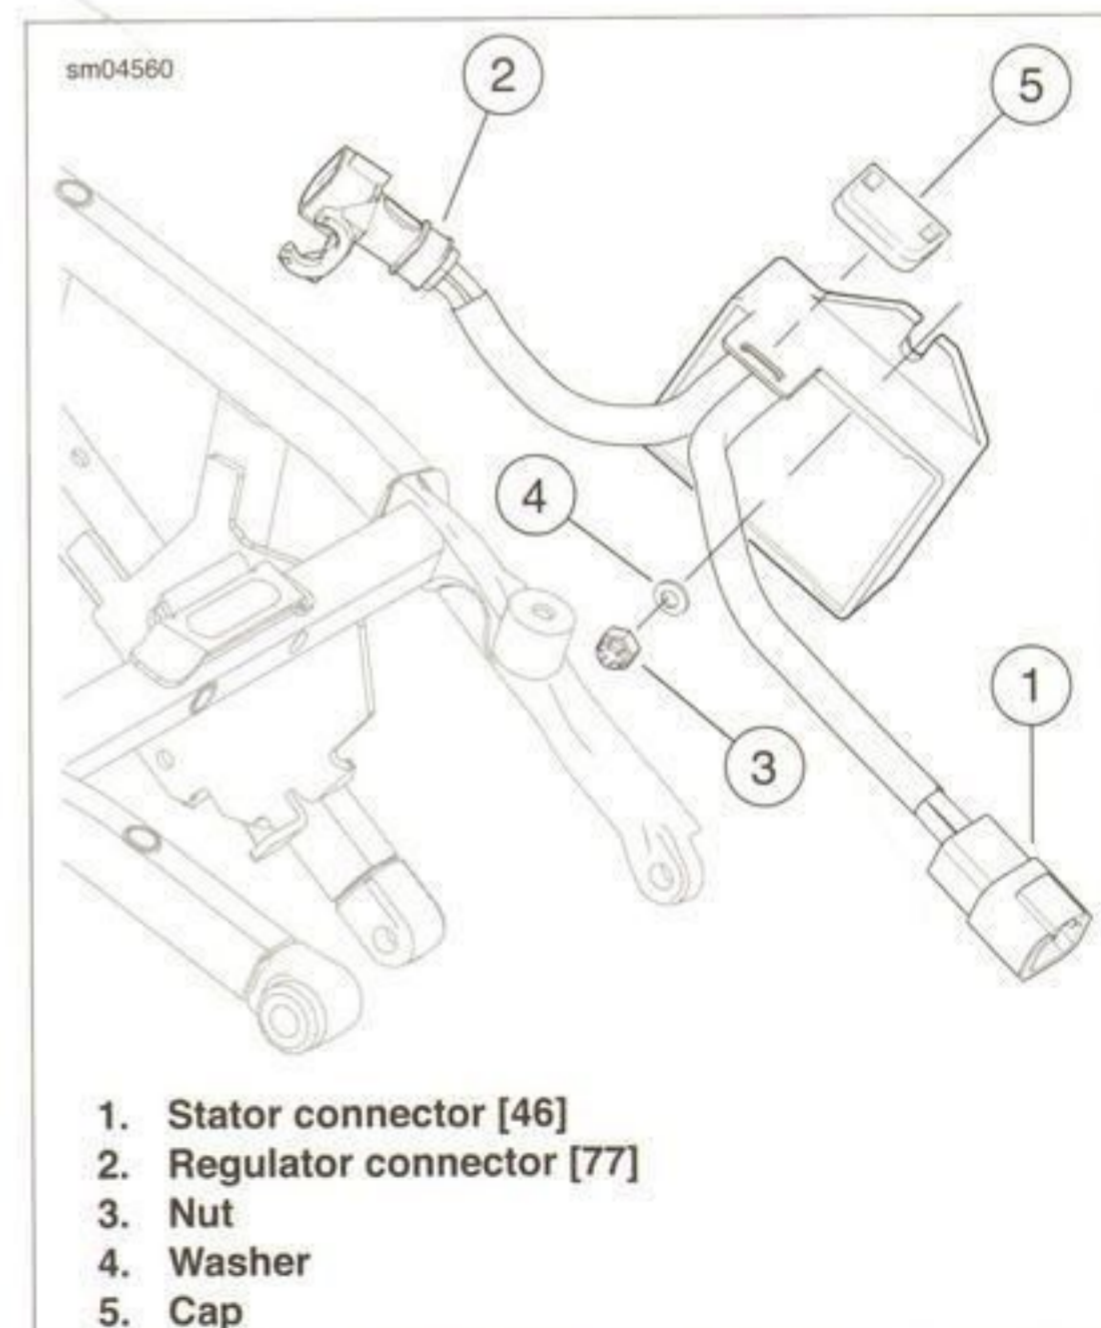

Figure 7-31. Voltage Regulator Assembly
2. See Figure 7-31. Fasten the **new** voltage regulator to subframe bracket with a washer (4) and nut (3).
4. Slide on the protective cap (5).
6. Route the regulator wire lead across the subframe and mate the voltage regulator connector [77] (2) pin and socket housings.